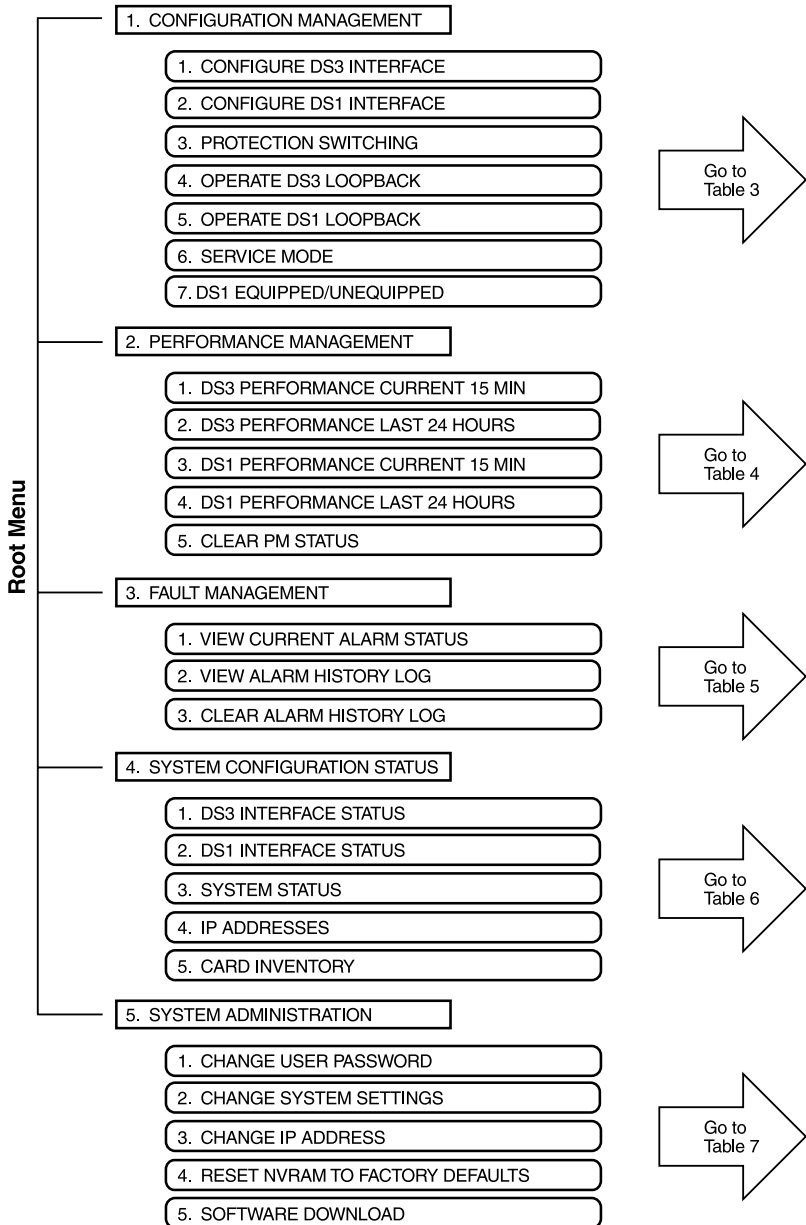

Figure 8. Root Menu for Multiplexer Configuration
- Figure 8 on page 19 is a graphical representation of the basic menus and submenus available under the Root Menu.